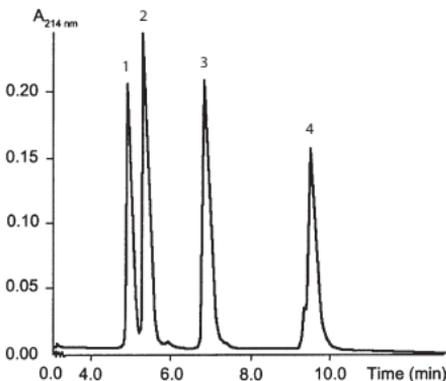

Fig 2. Function test for μ RPC C2/C18 SC 2.1/10.
- Each lot undergoes a function test which is described in Figure 2.
To check the column function, repeat the function test described in figure 2 and compare the chromatograms. For best performance ensure that the column is clean and has been correctly installed.